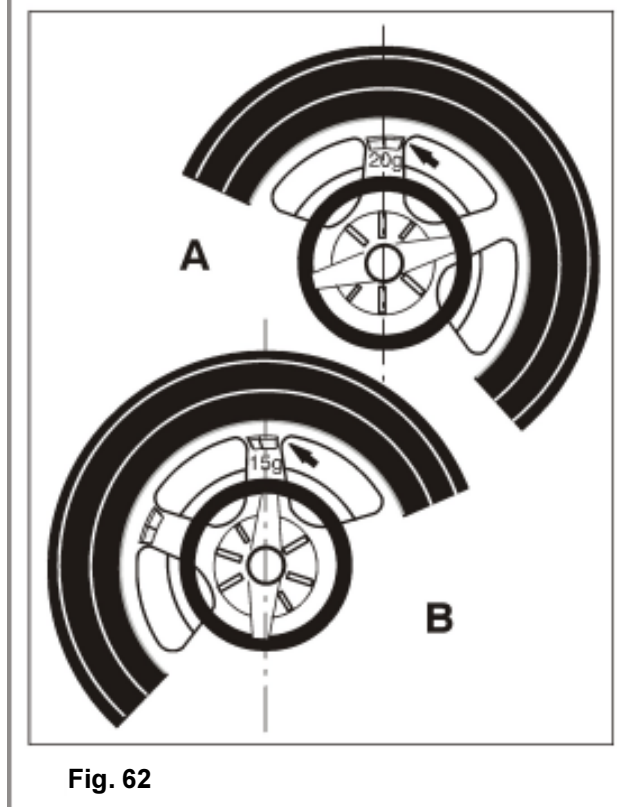

Fig. 62
- In this position fit a suitable balance weight (in the example 20 g, **Fig. 62, Item A**) in the correct position.
- Fit the second balance weight behind the spoke (right pair of arrows of right display) in the same way (in the example 15 g, **Fig. 62, Item B**).